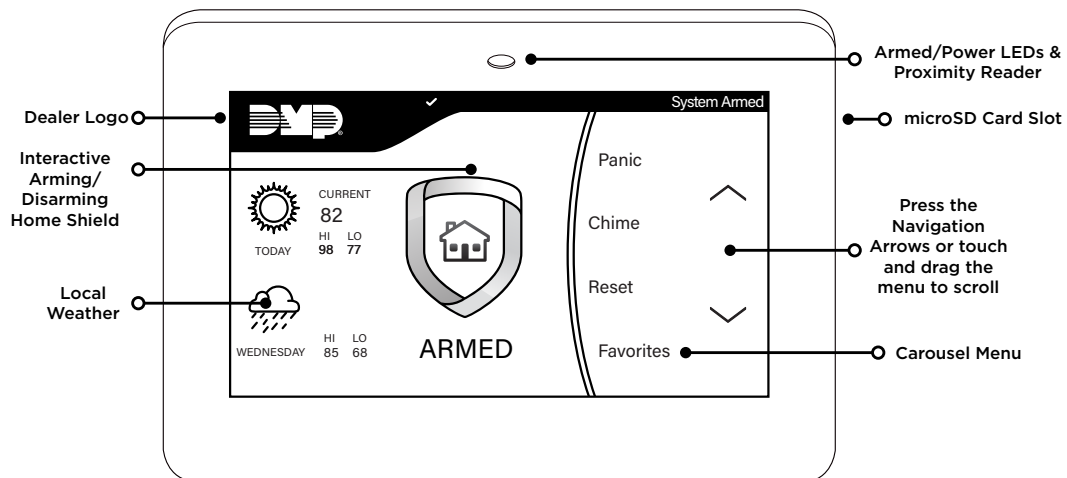

Figure 6: Keypad Layout
1. Route the keypad wires through the cutouts in the base. See Figure 6.